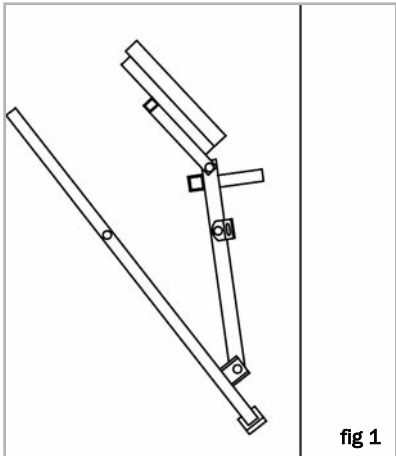

fig 1
Step 1: With **PLATFORM** folded up, place **UPPER TREE CONTACTS** against tree (fig 1).